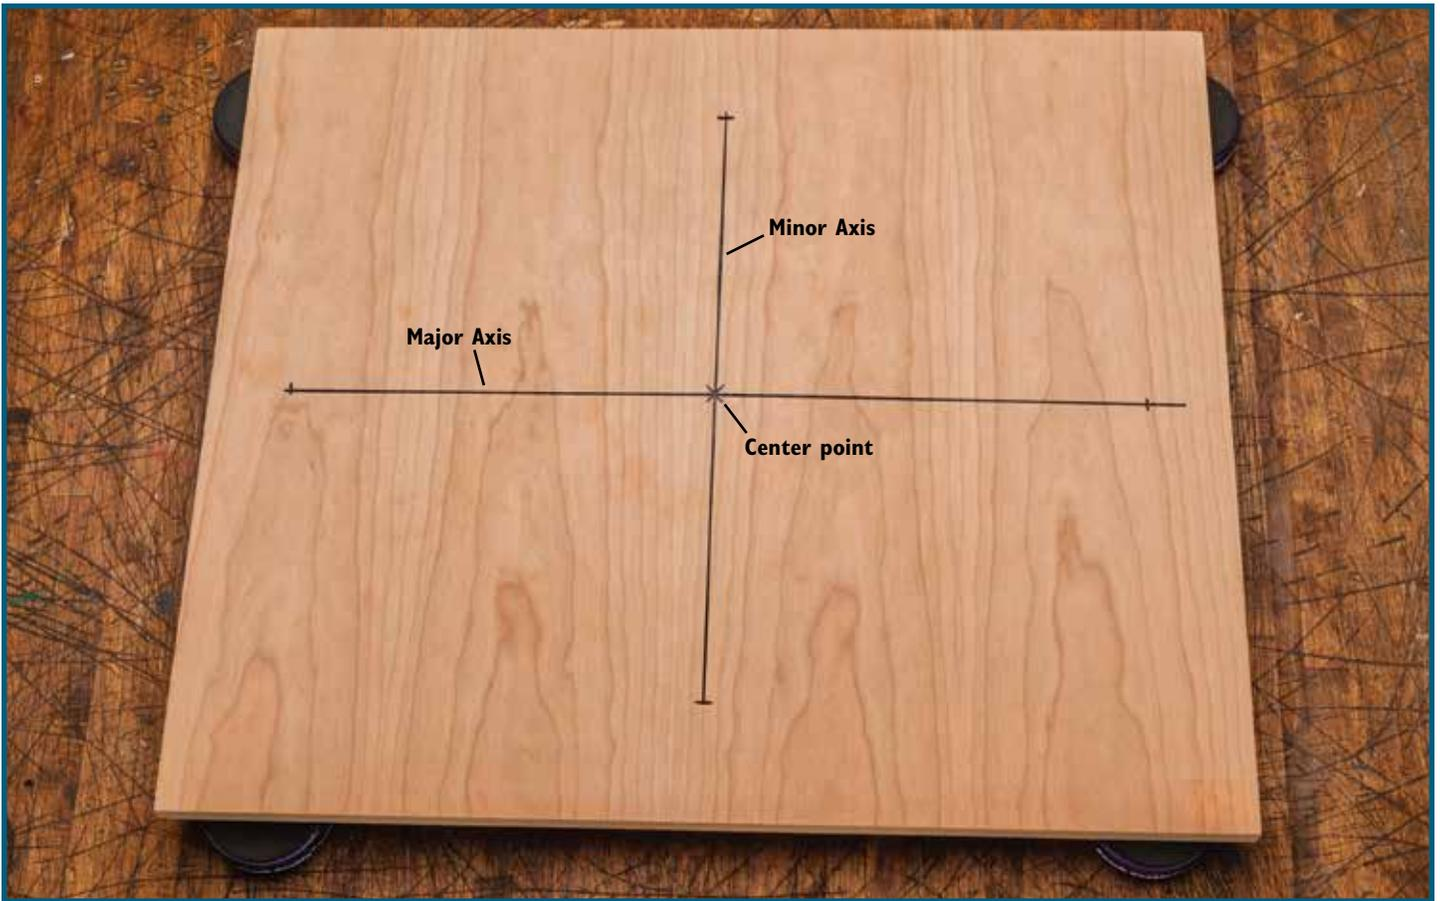

Fig. 1
1. Mark a center point on your workpiece. Lay out the major (long) and minor (short) axes of your ellipse so that they're perpendicular and intersect at the center point. The major axis can be a maximum of 24" long and a minimum of 11". The minor axis can be a maximum of 19" long and a minimum of 6". (The maximum difference in length between the major and minor axes is 5".) **Fig. 1.**